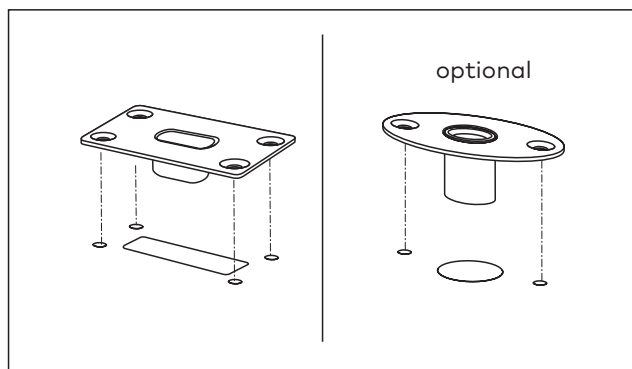

Fig. 51 Mount masking plate
- 15.** Mount the masking plate for the lower espagnolette bolt in the floor (Abb. 51).